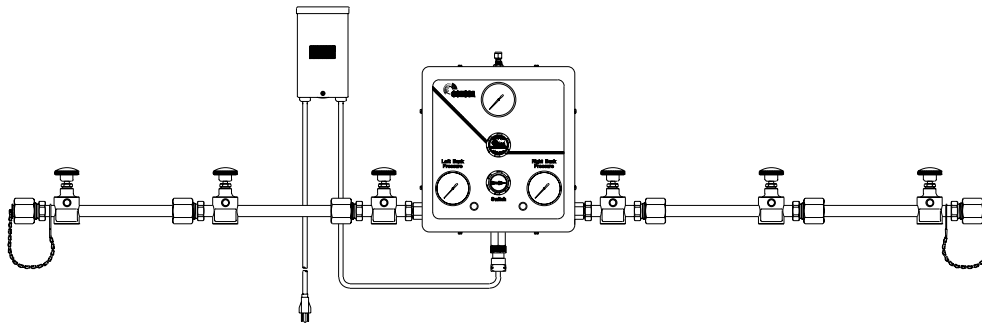

Figure 7. Electrical Connection
1. A 15 VAC power supply transformer is supplied with the Switchover Console. Mount the electrical box to the wall above and to the right of the console. The attached console mounts in a 5-pin plug, matching a receptacle on the bottom of the control console (Figure 7).